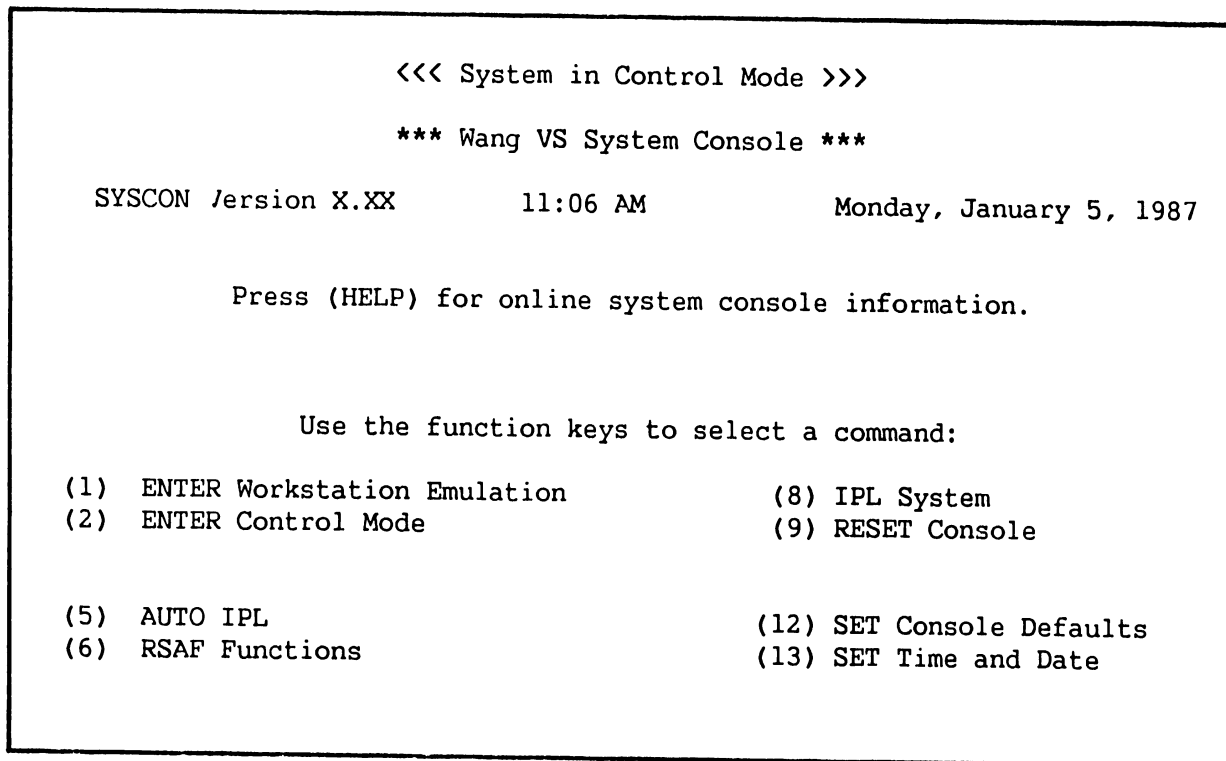

Figure 4-1. Console Processor Menu Screen
8. Press PF16 (Exit), and the Console Processor Menu screen (figure 4-1) reappears.